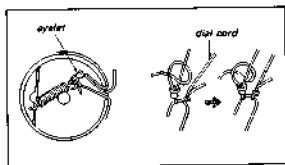

Fig. 2-7. Finishing dial cord stringing and detail of the cord end
- Tighten the cord, then squeeze the eyelet so that the spring is under tension. Make a knot in the cord end to keep it from slipping out of the eyelet. See Fig. 2-7.